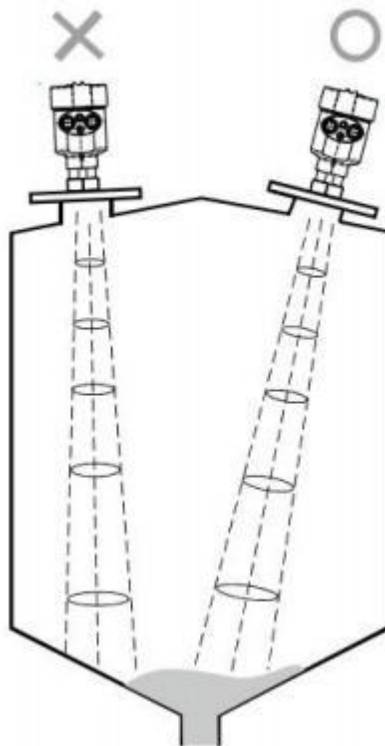

Figure 4-4 Conical tank should ensure that the beam is directed straight to the bottom of the tank
■ For conical containers, ensure that the beam is directed straight into the tank, otherwise the measurement results at the bottom of the tank may be inaccurate, as shown in Figure 4-4.